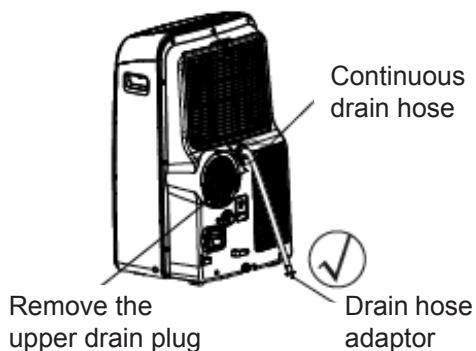

Fig. 20a
- During dehumidifying modes, remove the upper drain plug from the back of the unit, install the drain connector(5/8 universal female mender) with 3/4 hose(locally purchased). For the models without drain connector, just attach the drain hose to the hole. Place the open end of the hose adaptor directly over the drain area in your basement floor. Please refer to Fig.20a.
Make sure the hose is secure so there are no leaks. Direct the hose toward the drain, making sure that there are no kinks that will stop the water flowing. Place the end of the hose into the drain and make sure the end of the hose is down to let the water flow smoothly. (See Fig.20a,20b,21a). Do never let it up.(See Fig.21b).